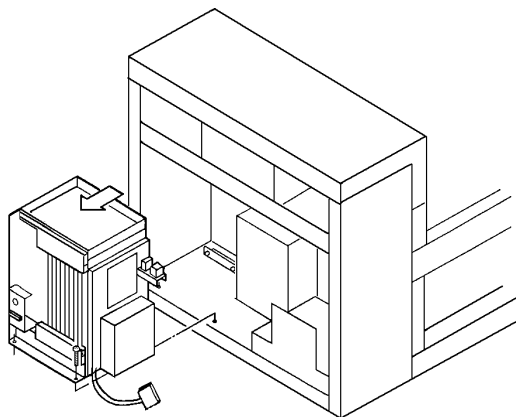

Figure 5-3. Main Control Assembly Removal
| Figure 5-3. | Main Control Assembly Removal | 5-4 |
11. To replace Main Control Assembly, follow steps 1 through 10 in reverse order (refer to Figure 5-3).